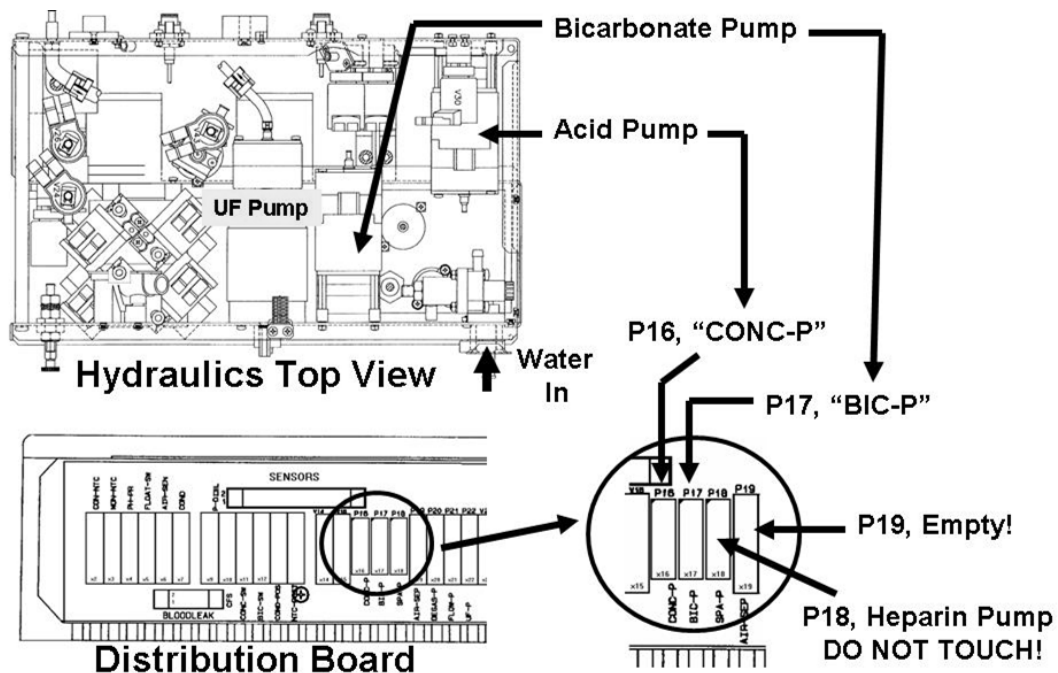

Figure 63 – Distribution Board / Hydraulics Top View (Pumps)
- A) Per Figure 63 (page 398), ENSURE the pumps are installed with their output (red or blue) nozzles towards the top and the cable extending from the side. **If not, this may be the problem!**
- E) Allow thirty (30) seconds THEN, WITHOUT LOOKING AWAY, watch the pump symbols for up to two (2) minutes OR until if one turns pink! FOUR (4) possible scenarios 1) or 2) or 3) or 4) below:
- a) WITHOUT LOOKING AWAY, watch **AAcid** versus **Acid** for up to five (5) minutes. If **AAcid** REMAINS within +/- 3 of **Acid** the acid pump system is okay (for now anyway). In this event continue to part b. If **AAcid** does NOT remain within +/- 3 of **Acid** then TWO (2) possible bad components: **1)** Bad ACID pump OR; **2)** Bad Actuator-Test Board.
- b) Watch **ABic** versus **Bic** for up to five (5) minutes. If **ABic** REMAINS within +/- 3 of **Bic** the bicarb pump system is okay (for now anyway)! If **ABic** does NOT remaining within +/- 3 of **Bic** then TWO (2) possible bad components: **1)** Bad BICARB pump OR; **2)** Bad Actuator-Test Board.
- B) Per Figure 63 above, unplug the acid pump cable from distribution board position “P16, CONC-P”. **CAUTION! Avoid the Heparin Pump connector at position “P18”!**
- F) Allow thirty (30) seconds THEN, **ignoring the BIC symbol**, watch the CONC symbol for up to two (2) minutes: **1) EVER pink (solid or blinking)? OR 2) Remaining ALWAYS white?**
- c) Per Figure 63 above, the Acid Pump is bad.
- b) Per Figure 63 (page 398), return both pump cables to their distribution board positions.